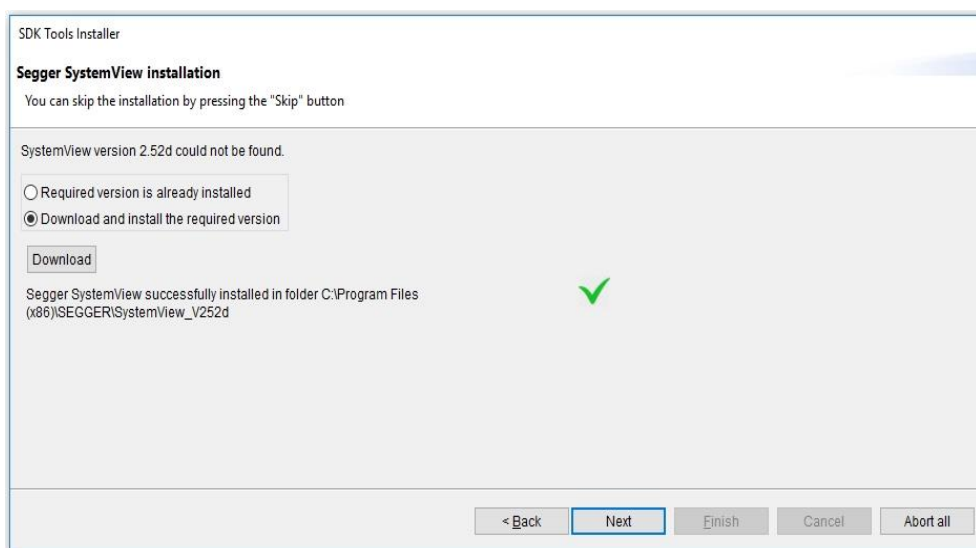

Figure 20: SEGGER SystemView Tool Installation
- The SDK Tools Installer will prompt for the installation of SEGGER SystemView, Refer to **Figure 20**.